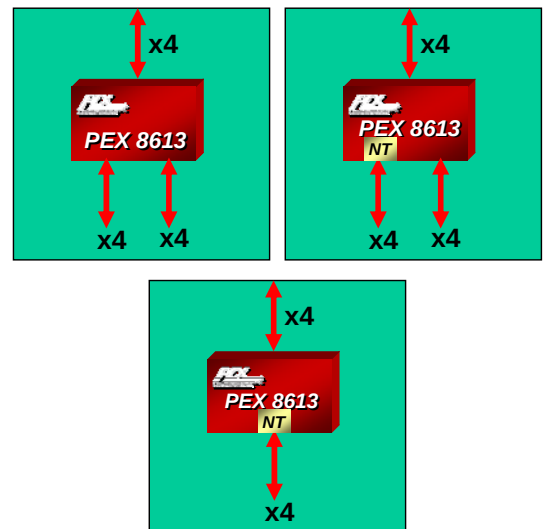
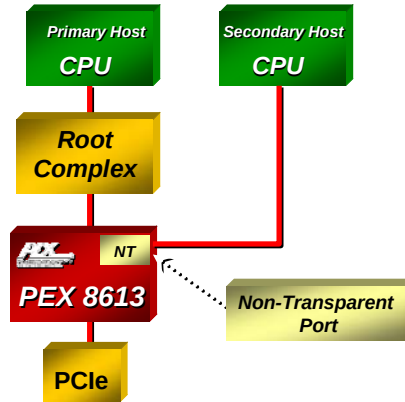

Figure 1. Common Port Configurations
Figure 2. Non-Transparent Port
The PEX 8613's 3 ports can achieve link up to lane widths of x1, x2, or x4. Flexible buffer allocation, along with the device's **flexible packet flow control**, maximizes throughput for applications where more traffic flows in the downstream, rather than upstream, direction. Any port can be designated as the upstream port, which can be changed dynamically. The PEX 8613 also provides several ways to configure its registers. The device can be configured through strapping pins, I²C interface, host software, or an optional serial EEPROM. This allows for easy debug during the development phase, performance monitoring during the operation phase, and driver or software upgrade. Figure 1 shows some of the PEX 8613's common port configurations.
The PEX 8613 product supports a **Non-Transparent (NT) Port**, which enables the implementation of **multi-host systems** and **intelligent I/O modules** in storage, communications, and blade server applications. The NT port allows systems to isolate host memory domains by presenting the processor subsystem as an endpoint rather than another memory system. Base address registers are used to translate addresses; doorbell registers are used to send interrupts between the address domains; and scratchpad registers (accessible by both CPUs) allow inter-processor communication (see Figure 2). In a two-port configuration (as in Figure 1), the PEX 8613 can serve as an NT buffer, isolating two host domains via two x4 links.